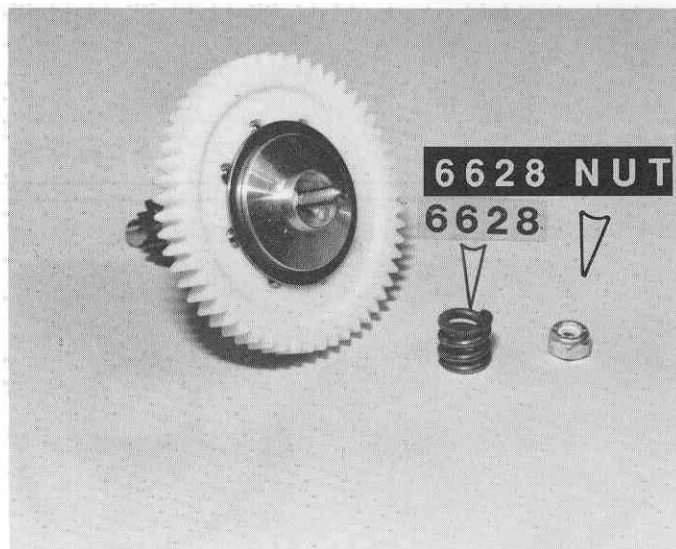

Fig. 77
□ **Fig. 77** The outer dif hub has a notched hole to match the flat spots on the shaft. Align the two and slip the hub on the shaft. Check that both drive rings are centered and seated against the aluminum hubs. Take out the #6628 dif spring and nut.